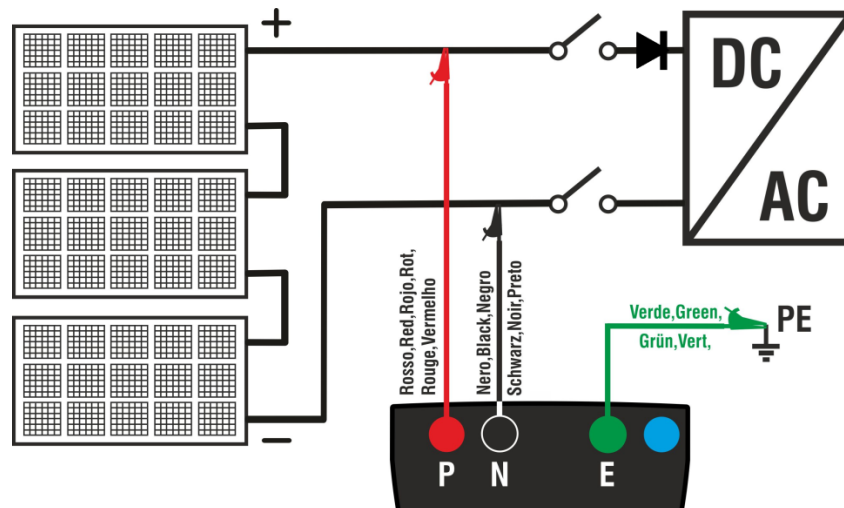

Fig. 6: Instrument connection for insulation measurement in DUAL mode
- Connect the instrument to the PV string to be tested as shown in Fig. 6. The test can also be performed on several strings in parallel with each other. Remember that any surge arresters connected to the string cables must be disconnected and that it is advisable to measure upstream of any blocking diodes